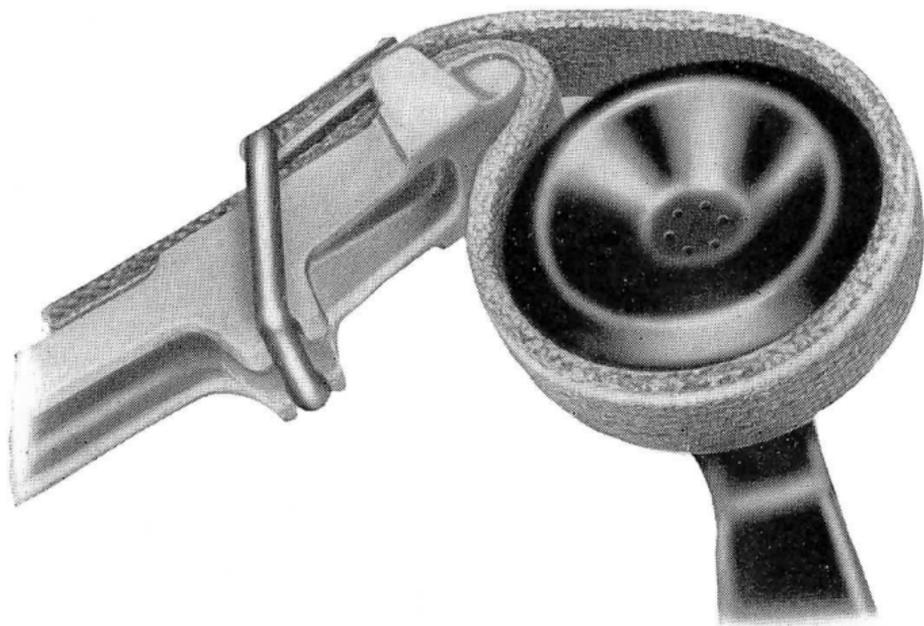

Fig. 2—514B Tool
2.04 When using the 514B tool, leave sufficient strap length to wrap around the cap once, and fold over the end of the tool against the area of the handle opposite the strap positioning ears. Under this condition there will be a thickness of the strap between the cap and the tool handle, and no projections will extend toward the cap. See Fig. 2.